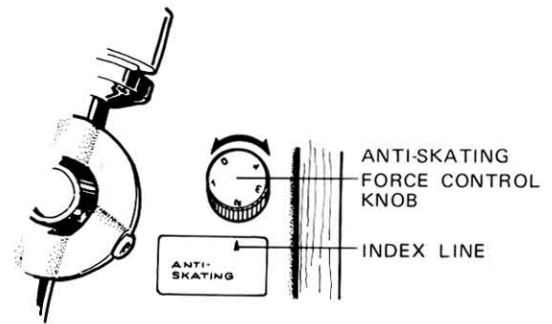

Fig. 13
1. Set the anti-skating force control to "0" (Fig. 13).
The anti-skating force control knob should be adjusted to the same setting as that required for the tracking force (Fig. 13).